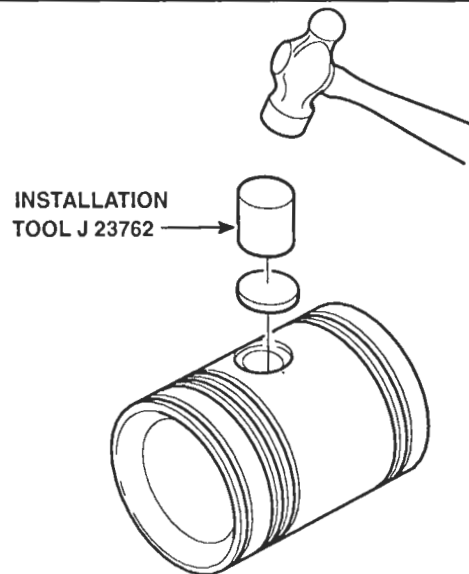

Figure 10. Piston Pin Retainer Installation
1. Place the piston in the holding fixture (Figure 10.)